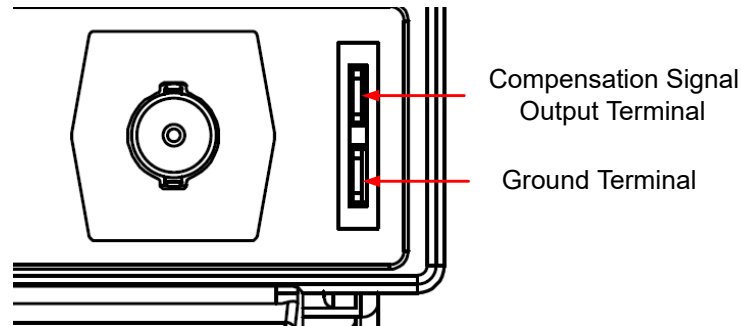

Figure 4.6 Using the Compensation Signal
2. Connect the ground alligator clip of the probe to the "Ground Terminal" as shown in Figure 4.6.
3. Use the probe to connect the input terminal of CH1 and the "Compensation Signal Output Terminal" of the probe, as shown in Figure 4.6.